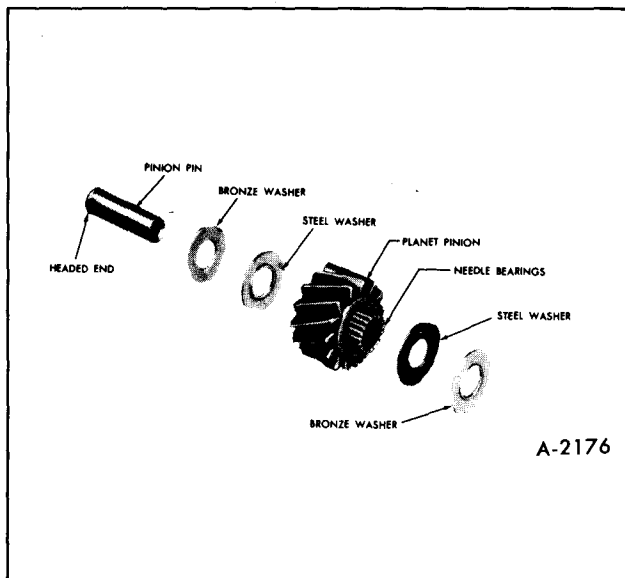

Figure 53—Planet Pinion Components
7. Place a bronze and steel thrust washer on each side of pinion gear with steel washers against gear, Figure 53. Hold washers in place with petrolatum.